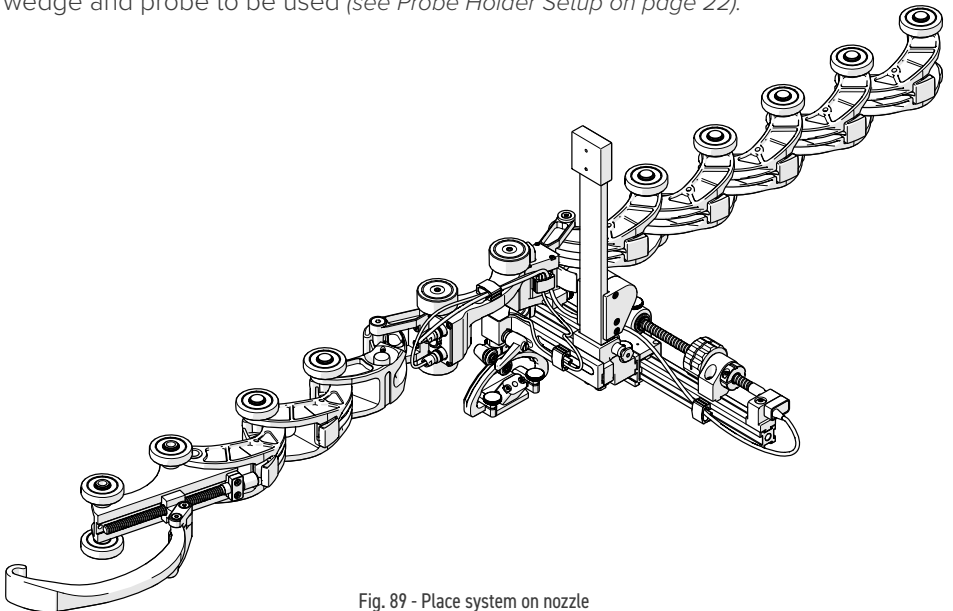

Fig. 89 - Place system on nozzle
3. On a flat surface, connect the appropriate amount of links as indicated on the **ROTIX** setup chart. Arrange the link setup so the buckle and catch link will be 180° opposite the low profile link (*Fig. 89*).